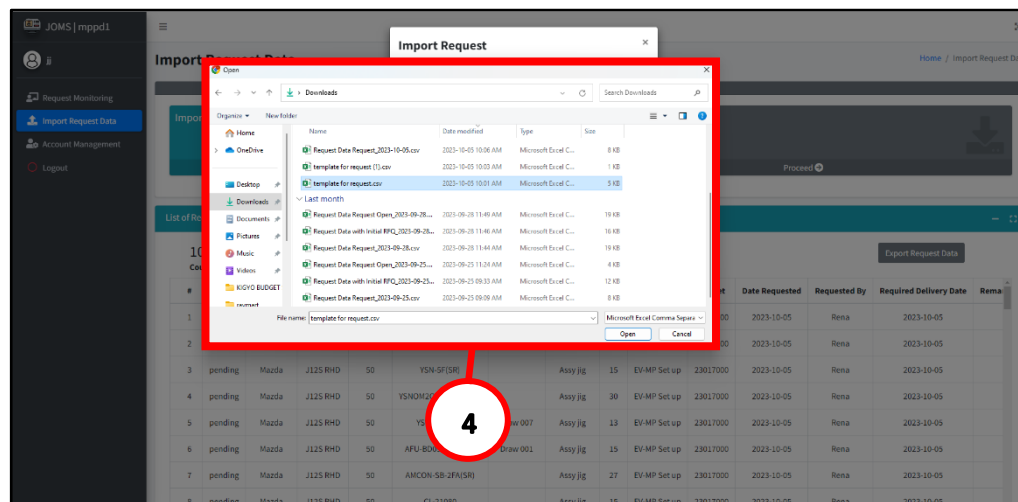

Figure 1.3
4. **Import** the data using the download template with encoded request data. Note that incorrect format will result to error (See Figure 1.3).